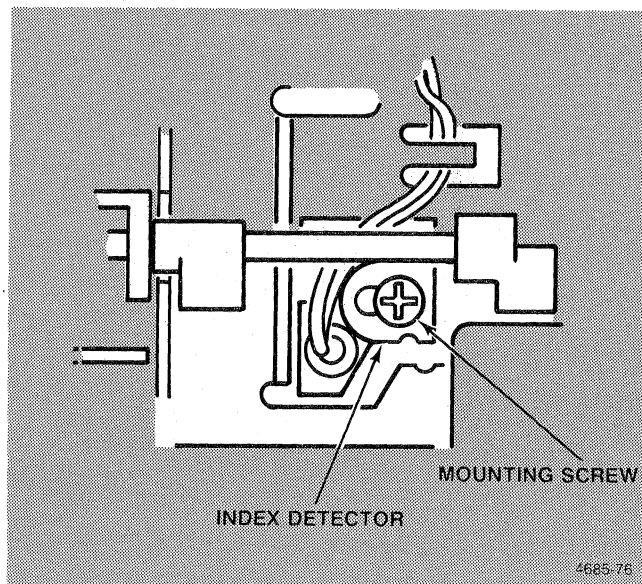

Figure 13-7. Index Detector Mounting.
6. Loosen the mounting screw in the index detector block until the block can just be moved (Figure 13-7).